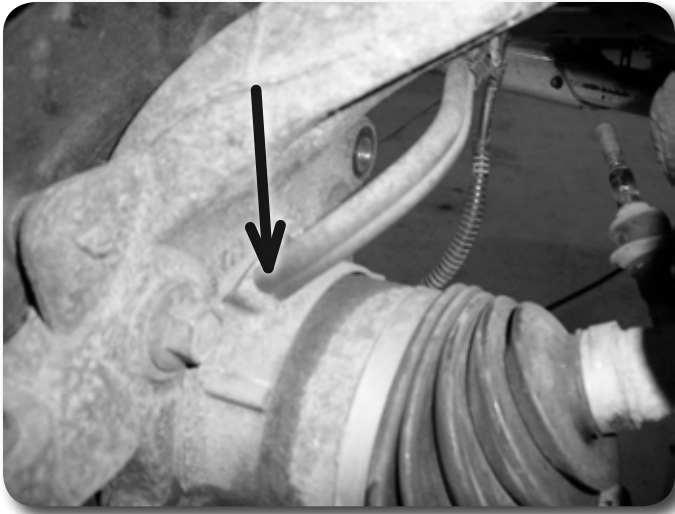

Figure 4
11. Disconnect the hub vacuum line from the hub (Figure 4).